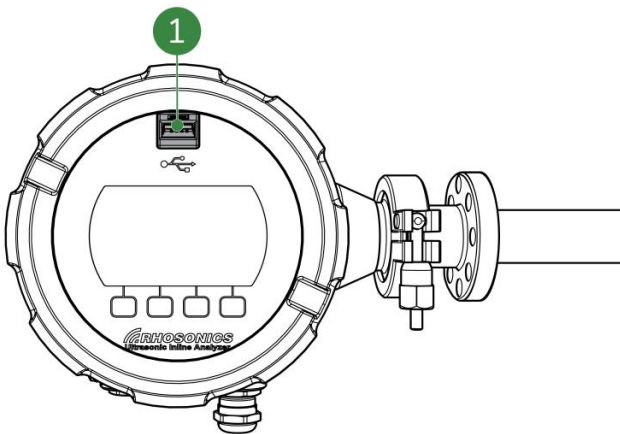

Figure 8-21: USB-port
2. Place the USB stick into the USB-port (Figure 8-21, pos. 1) with the 3ASENSOR.CSV file.